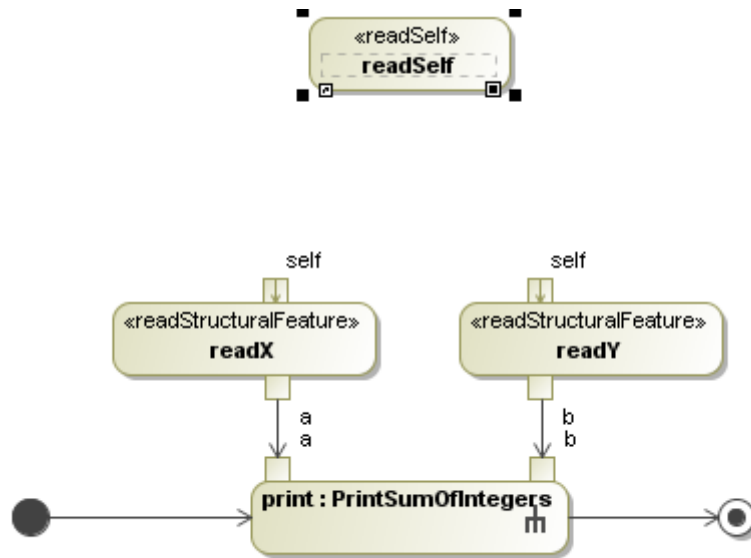

Figure 69 -- Activity Diagram with readSelf Action
3. Click the **PrintSum** activity diagram to create an action and name it “readSelf” (Figure 69).